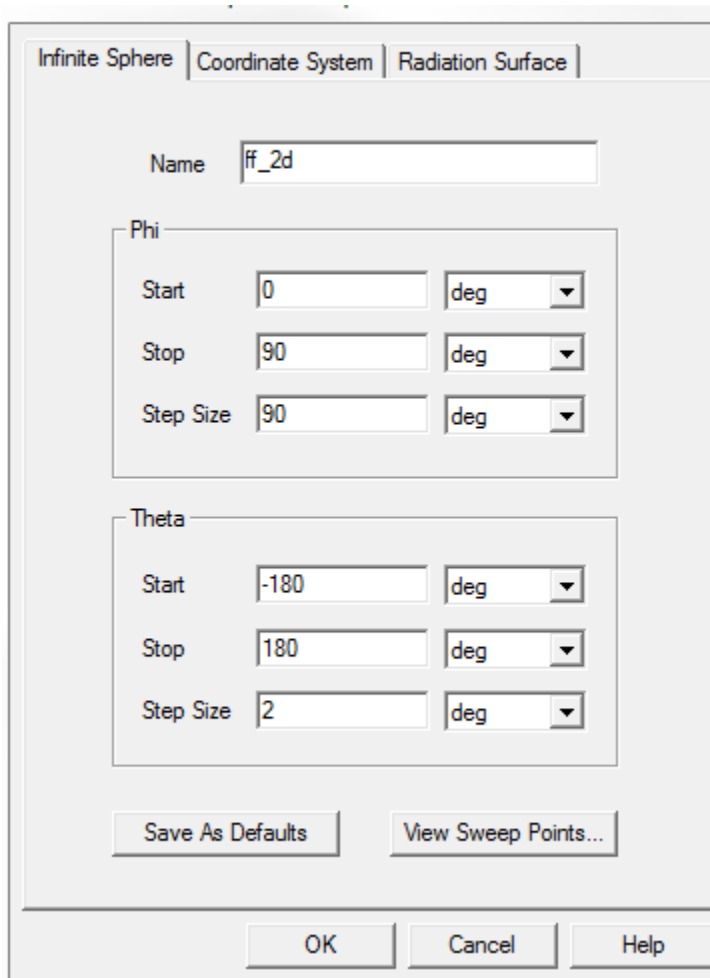

Figure 36. Far Field Radiation Sphere Setup dialog box
- 2 Edit the fields as shown in Figure 36 and click OK.